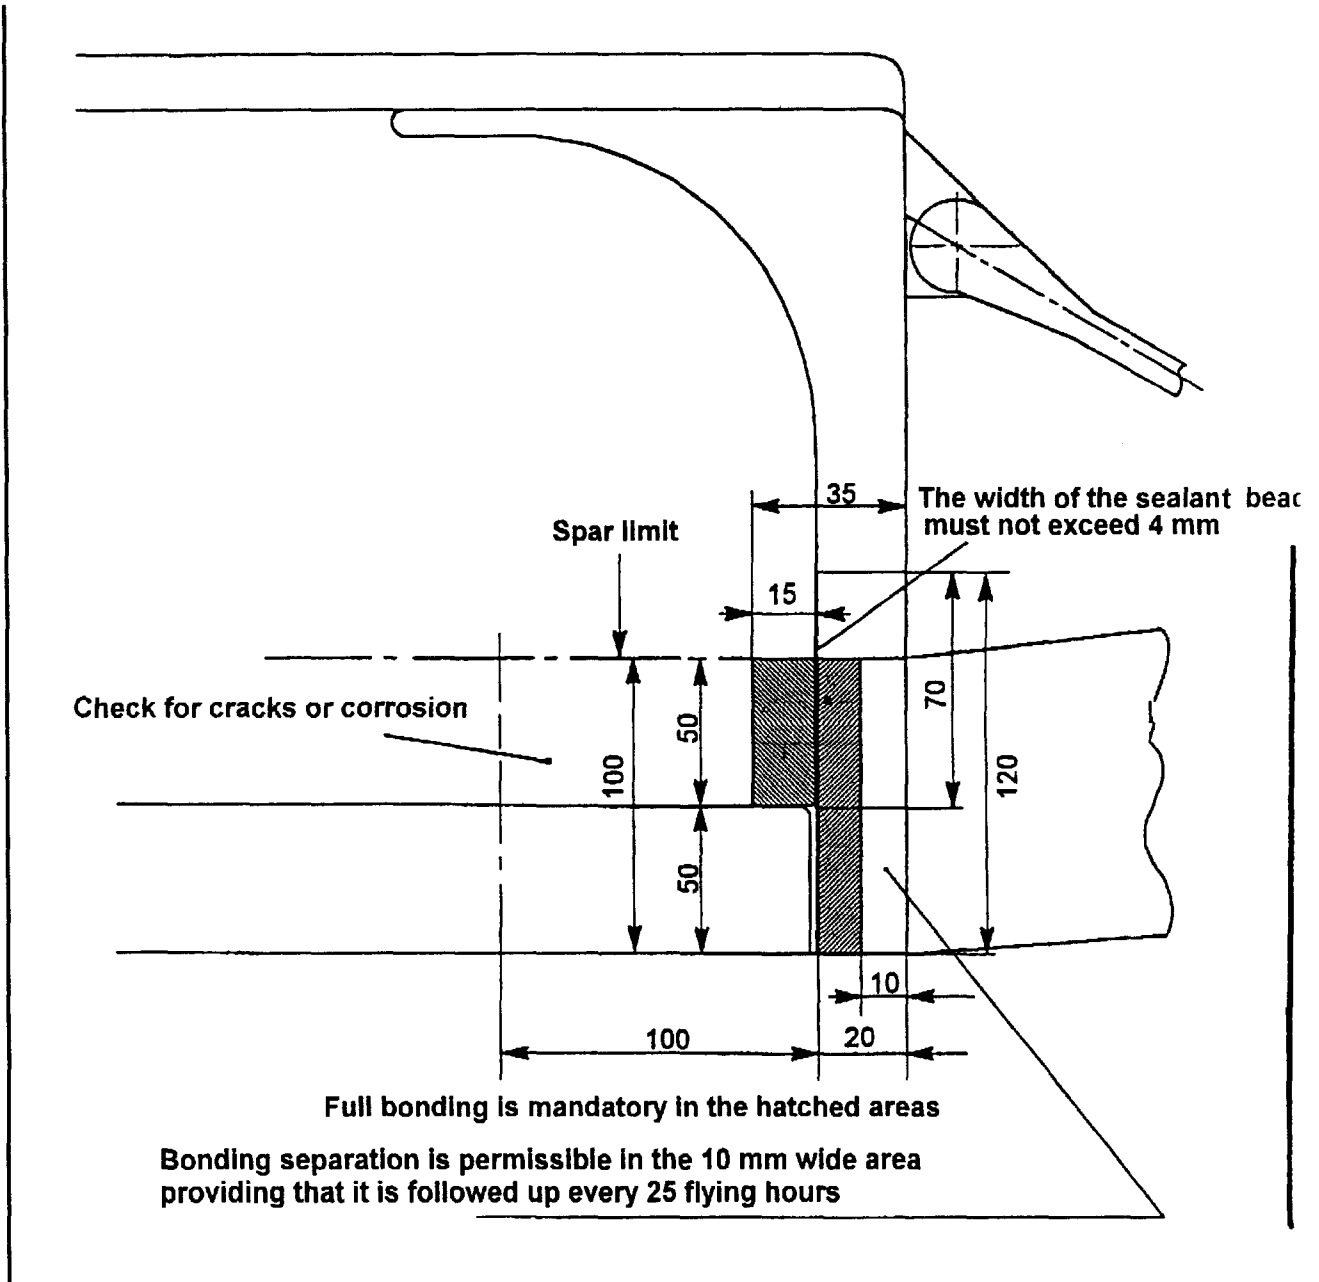

FIGURE 1
- Hatched area of skin on spar, 15 x 50 mm, aft of the stainless steel protection (upper surface and lower surface) see FIGURE 1
- Reinforcement strip area (upper surface and lower surface) (see FIGURE 1) R
During subsequent inspections (every 100 flying hours or 6 months: the first limit reached is applicable, or every 25 flying hours if there is a bonding separation in the 10 mm wide non-hatched area on the strip (FIG. 1)), the 4 mm-wide sealant bead is no longer to be removed unless crazings appear as described above. R